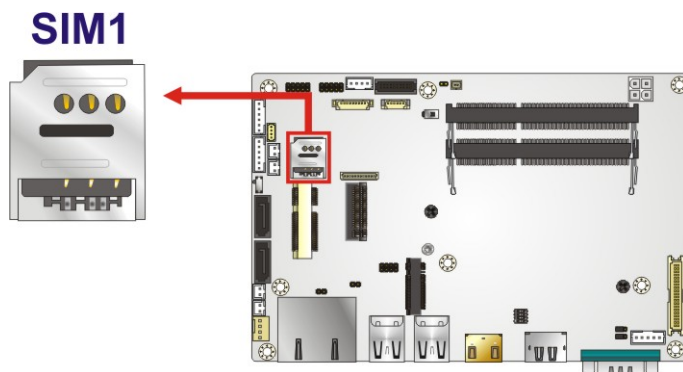

Figure 3-23: SIM Card Slot Location
- CN Location:** See **Figure 3-23**